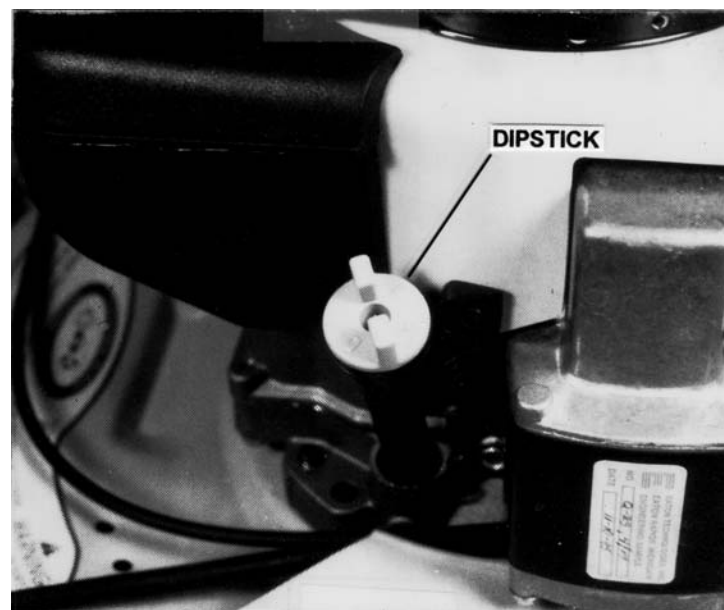

FIGURE 4
10. Remove the oil fill dipstick See Figure 4.